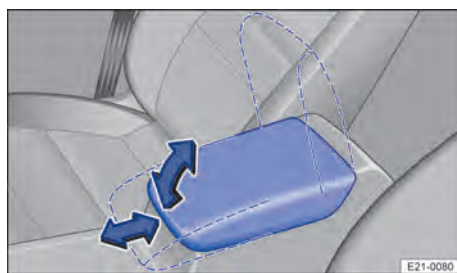

Fig. 80 Between the front seats: Centre armrest.
→ Fig. 80.
3. *Adjusting in longitudinal direction:* move the centre armrest forwards or backwards → Fig. 80.